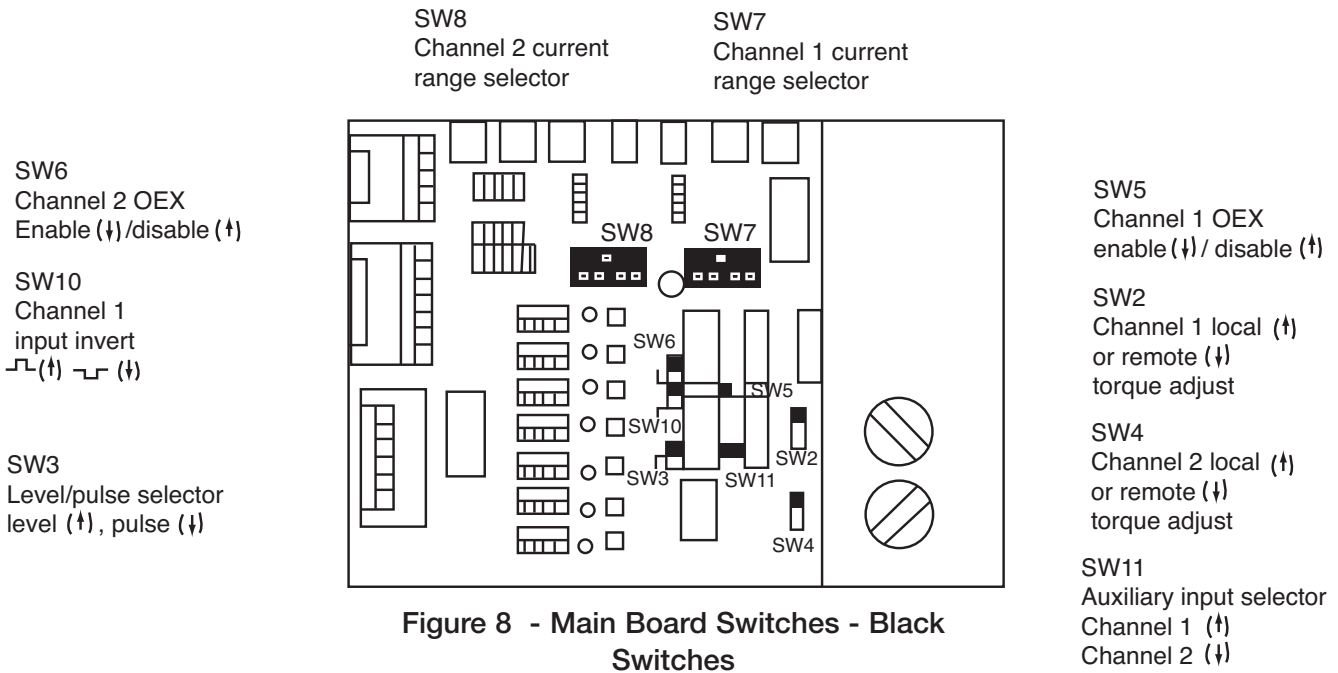

Figure 8 - Main Board Switches - Black Switches
4. Refer to dip switch selection charts below and Figure 8, facing page. Set dip switches SW7 and SW8 for the proper range settings based on magnet and field sizes. Switch SW7 sets the current ranges for Channel 1 and switch SW8 sets the range for Channel 2.
5. Refer to Figure 8, Page 10. Set the input voltage selector switch SW1 for the AC input being used.
6. Refer to Figure 8, Page 10. Set switches SW2 and SW4 in accordance with either of the following: